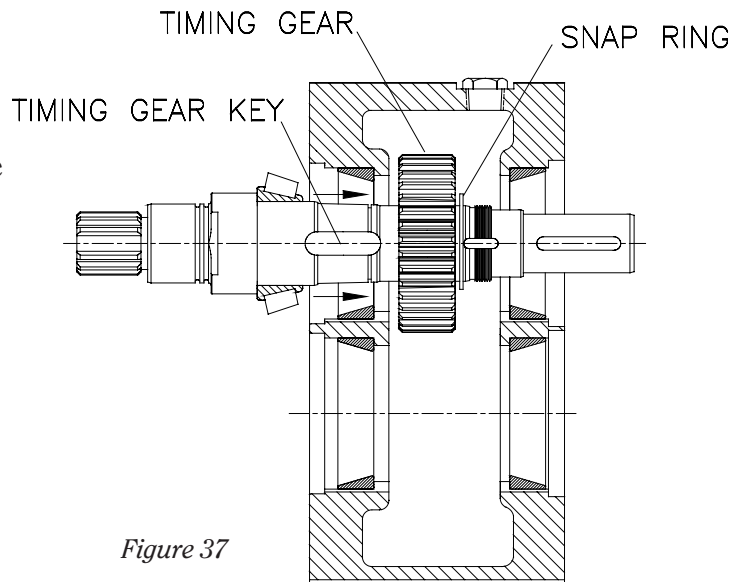

Figure 37
- Deburr and install the gear key (47) into the shaft.
- Place one of the gears (41), with the part number facing the bearing lock nut end of the gearbox, into the gearbox.
- Install the gear snap ring (40A), to secure the gear to the pump shaft, with the straight snap ring pliers (*Figure 37*).